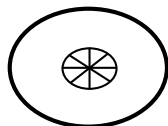

Fig. 1
2. Due to the cable cutting operation, the cable end will be somewhat flattened. (Fig. 1)